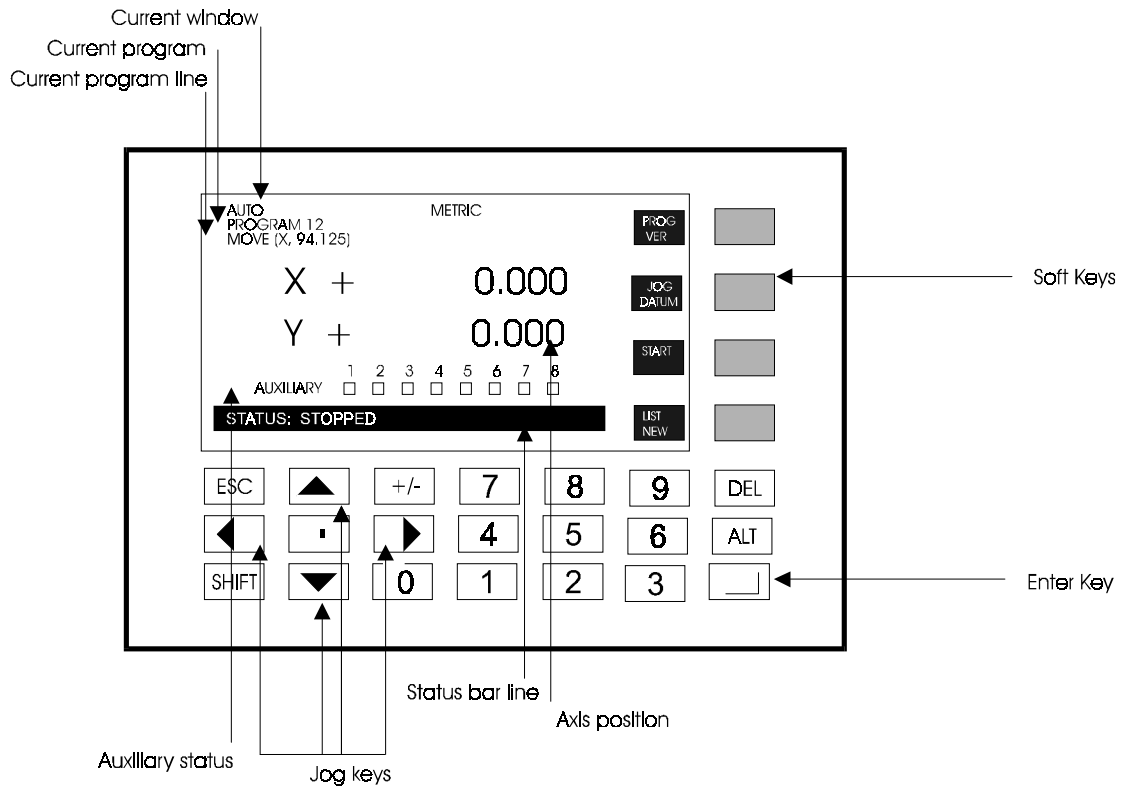

Figure 1
The selected program will run when Soft key 3 (START) is pressed providing that the **MultiStop^{Plus}** has first been datummed . The status line will indicate that the program is running and the current program line being executed will be displayed as indicated in Figure 1.